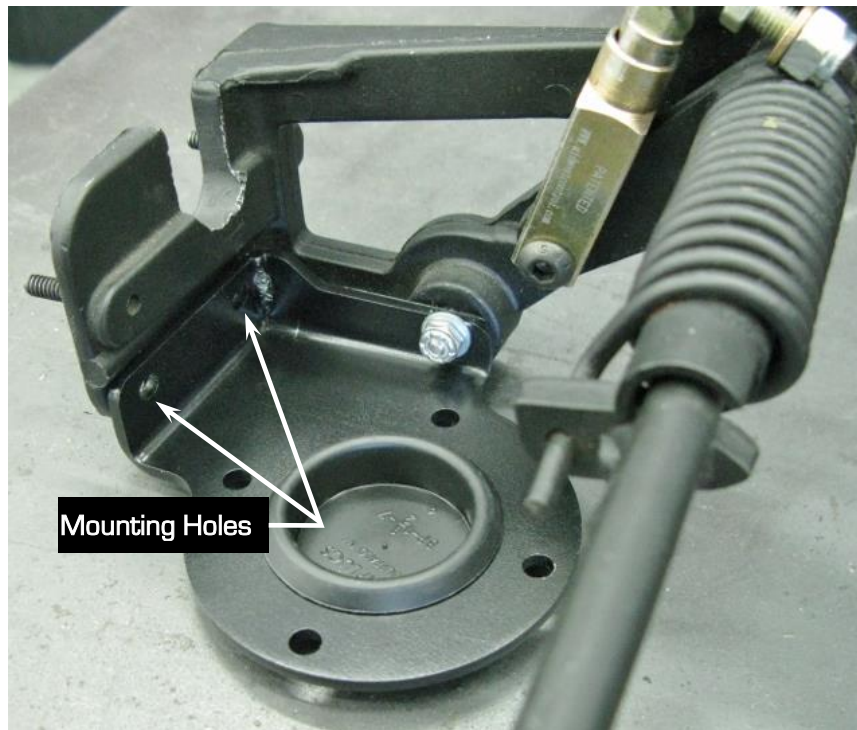

Figure 31 – Mark Mounting Hole Locations
43. Using a reverse angle scribe, mark the 2 front mounting hole locations from the motor bracket to the wiper door bracket (Figure 31). **NOTE:** For this picture the motor has been removed to better show the 2 mounting holes.